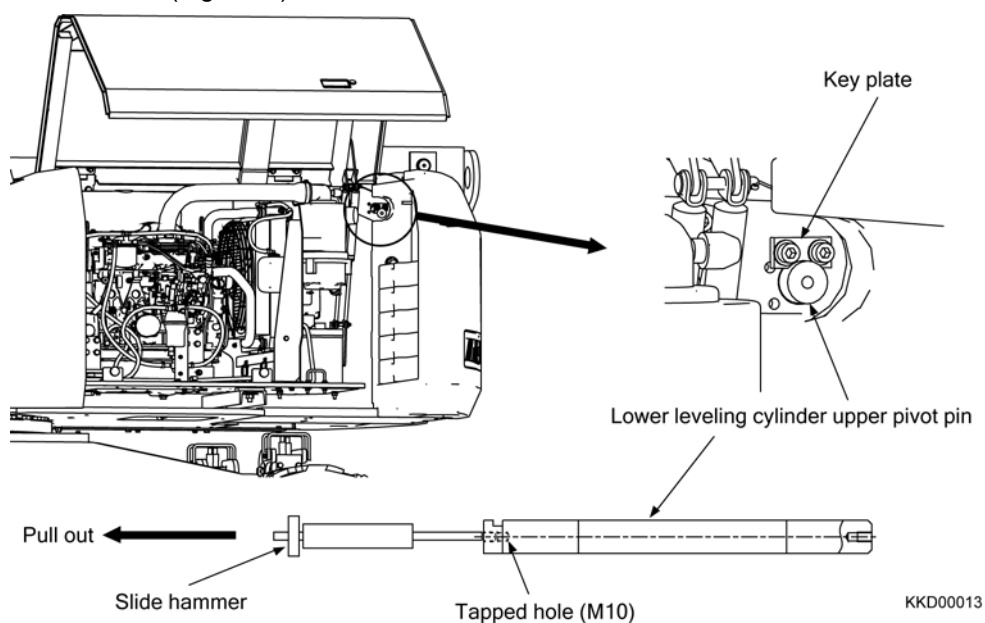

Fig. 2-38
17) Open the engine cover, take the key plate and then pull the lower leveling cylinder upper pivot pin out using slide hammer (Fig. 2-38).